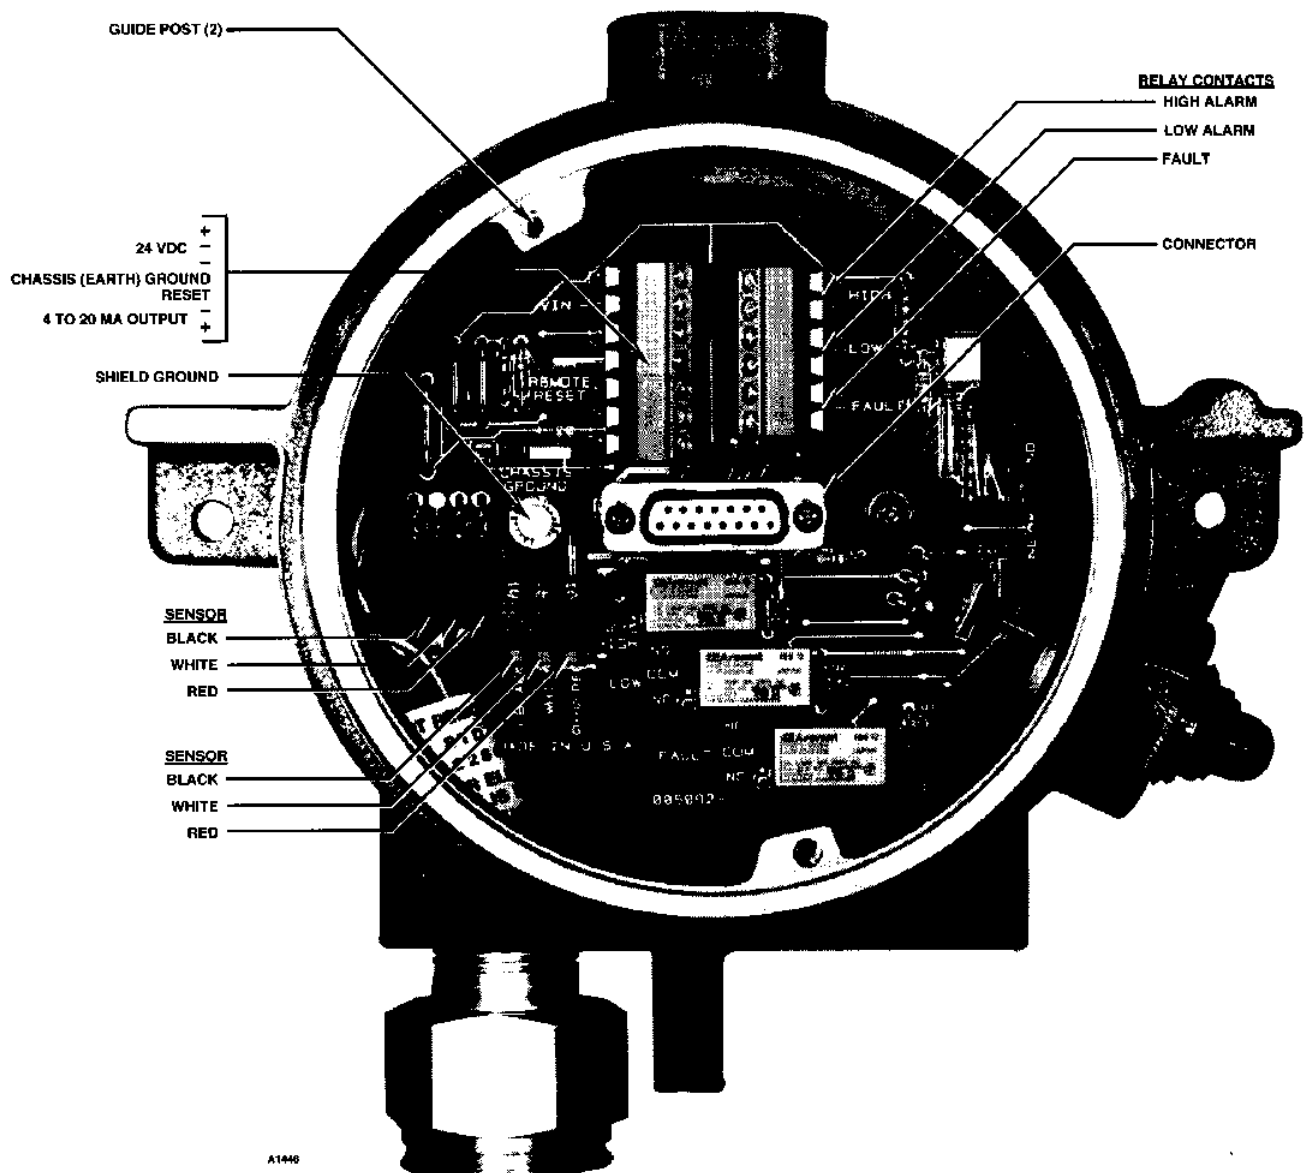

Figure 8—System Wiring
8. Attach the sensor to the transmitter as shown in Figure 8. It must be tight (minimum of five fully engaged threads) to ensure an explosion proof installation. Do not over-tighten. If a sensor separation kit is being used, attach the sensor to the junction box and connect the wires to the termi-
9. Two terminal blocks are provided for the sensor connection. See Figure 8. Use the plug-in sensor terminal if the sensor is installed in the conduit entry on the transmitter enclosure. If a sensor separation kit is used, connect the wiring from the sensor junction box to the screw terminals and connect the shield to the grounding post provided. **Do not** ground the shield at the sensor.